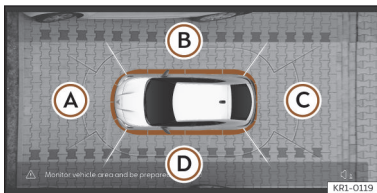

Fig. 166 Display of the Area View system: aerial view.
>>> **Fig. 166:**
The aerial view is generated by combining the images from all the cameras  >>> **Fig. 166**. The top view can be selected by pressing the vehicle inside the zone.
Press on the different areas >>> **Fig. 166 (A)** to **(D)** of the top view or reduced top view to select and set the corresponding view, which will be highlighted in orange.